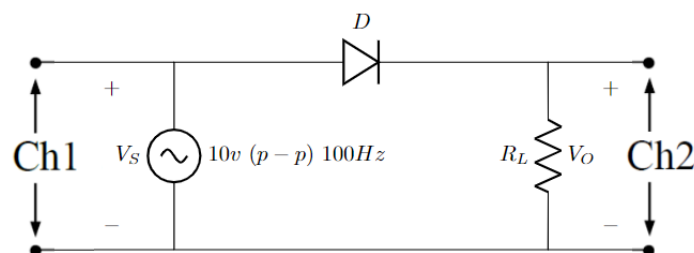

Figure 1: *Half-Wave Rectifier*
1. Construct circuit of **Figure 1**. Observe V_S and V_O simultaneously on Channel 1 and Channel 2 of the oscilloscope respectively.